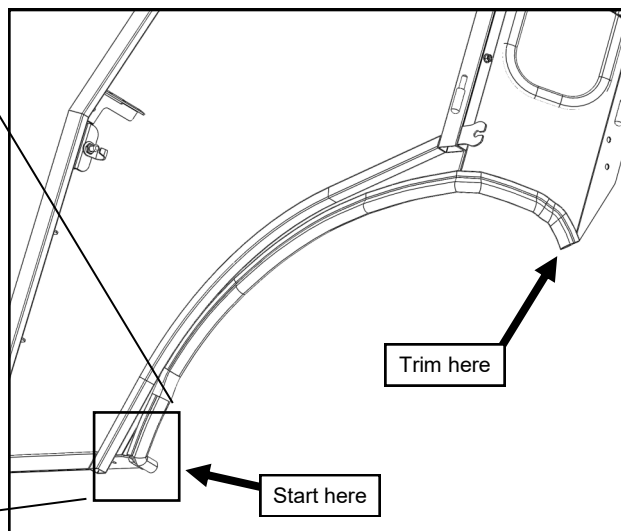

Fig. 3.5 (Frame Bulb Rubber)
- 3.5** Per figure 3.5, attach the bulb rubber to the frame/rear leg assembly, starting at the front. Trim the excess rubber at the edge of the rear leg.